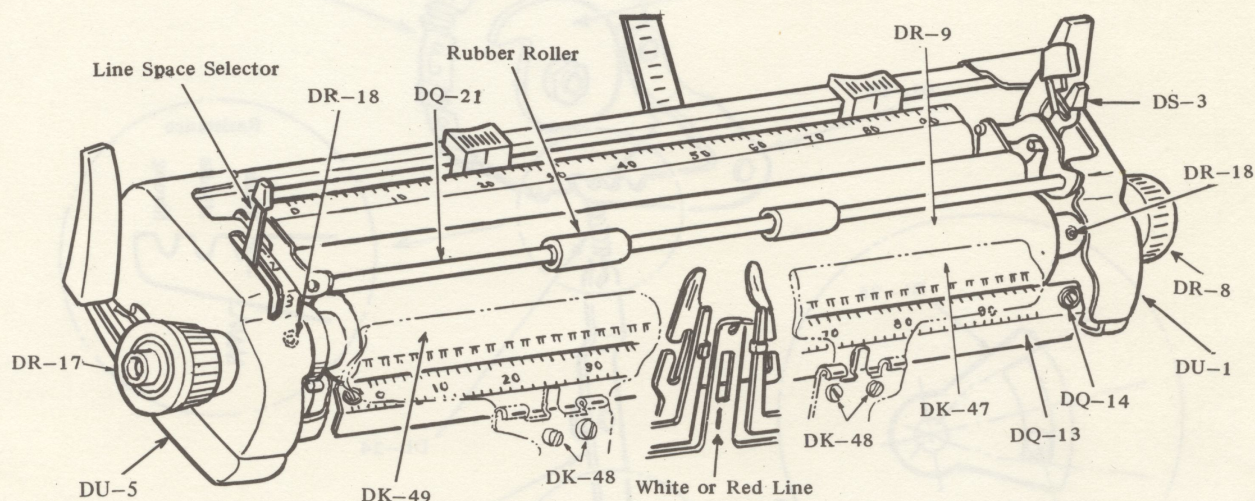

Fig. 76
- (1) Removing Platen
- f) Under the condition that Carriage is moved to the full right end, right side of DR-9 is first lifted so that DR-9 can be pulled out to the right direction. (Fig. 76)
- (2) Installing Platen
Perform the reverse order against the procedure for removing Platen with care to the followings. Put positively DR-17 (Platen Knob: left) into the hole of DS-31 (Carriage Side Plate Left Unit) and make sure no play in up and down directions on DR-9 (Platen) and DR-17, then tighten DR-17 by DR-18 (Screw) after DR-9 is pushed to the full left end. Tighten DR-17 before DR-8 so as to prevent shifting the position of DR-9 and disorder of Line Space during operation. After tightening DR-8 and DR-17, make sure smooth revolution and within 0.1 mm of side play of DR-9 when Platen is rotated under the condition of Paper Release and Space Ratchet Release. (Fig. 76).
With the condition that Item (e). in the paragraph of Removing Platen is finished, remove each Carriage Cover by loosening DU-3 (Carriage Cover Fastening Screw). In installing Carriage Cover, be careful to install DR-7 of above Item. (Fig. 76)
- (4) Removing and Reinstalling Paper Pan Lower (DQ-1)
After removal of DQ-13 (Platen Scale) by loosening DQ-14 (Screw), DR-9 and DQ-1 according to the procedure to remove Platen described in the above Item (1). When DQ-1 is installed, make sure that the clearance between DR-9 and DQ-1 is nearly parallel, and when DQ-13 is installed, the Scale of DQ-13 is almost aligned with the white or red line of Type and DK-44 (Card Holder). (Fig. 76)
- (5) Installation of Clear View Paper Meter (DK-47 and 49)
Adjust the positions of DK-47 and DK-49 by loosening DK-48 (Screw) so that red lateral line of DK-47 and -49 is almost aligned with the bottom edge of Types, and longitudinal line is aligned with about center of Types. (Fig. 76)
Adjust by twisting DQ-21 so that 2 pieces of Rubber Roller of DQ-21 will contact evenly with DR-9. (Fig. 76)